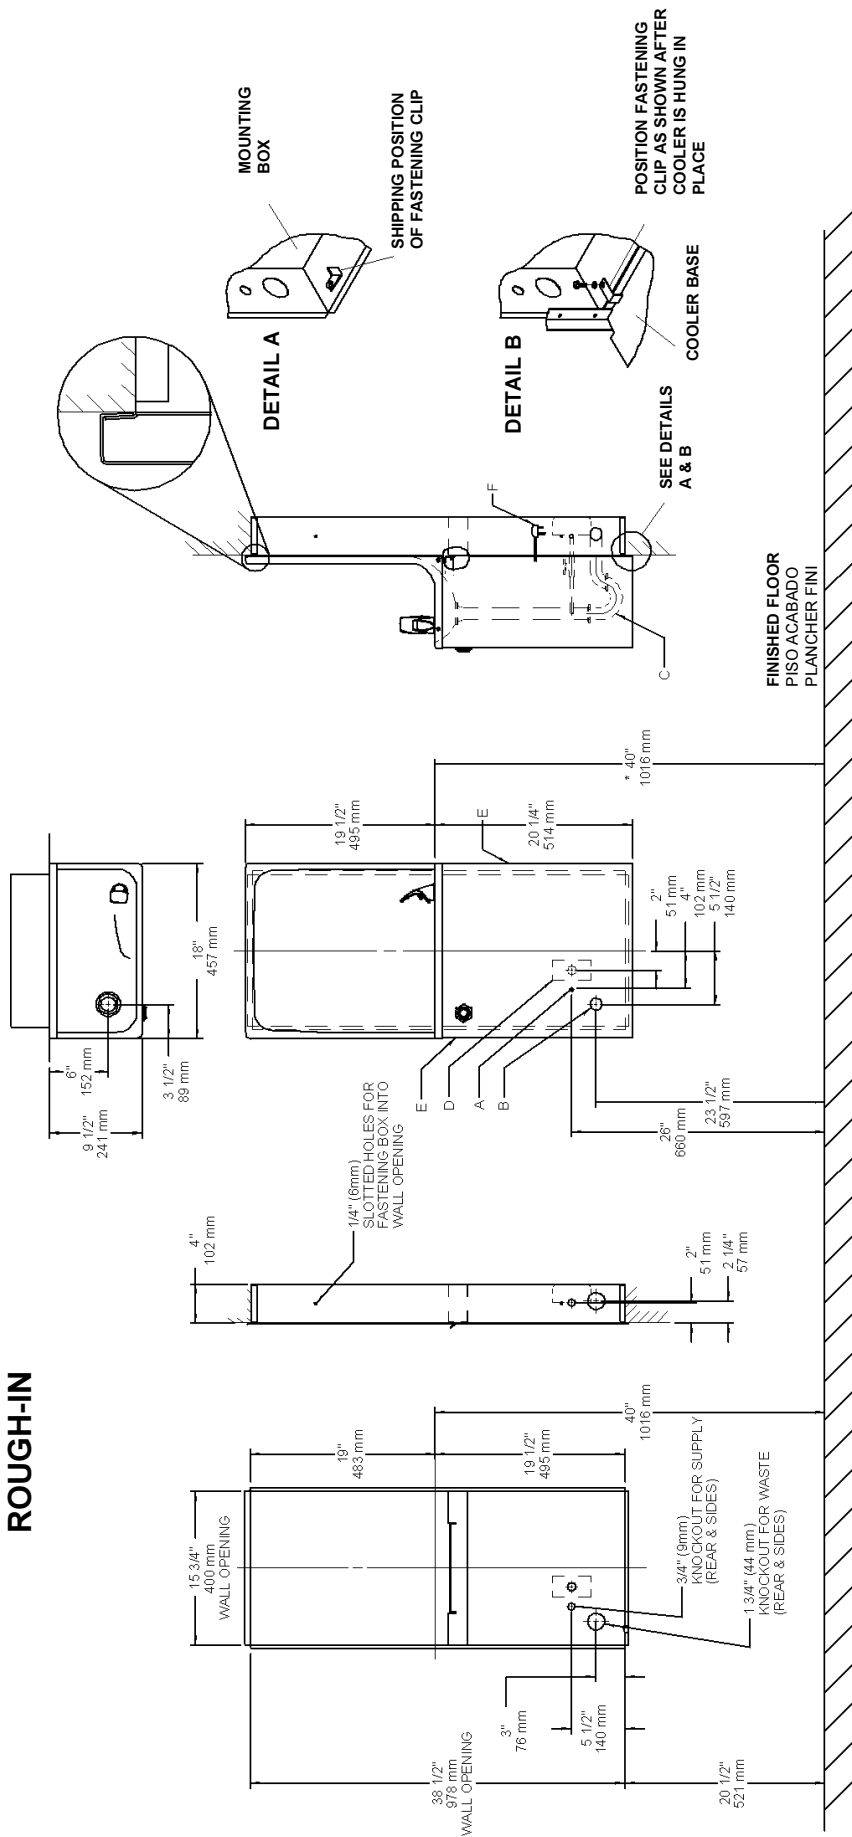

FIG. 2
- 1) Hang the unit from the mounting box by placing tabs from the upper backside of the basin over top of the upper flange on the mounting box, and mount trap, as shown in Figure 2.
- 2) Secure cooler in place by positioning fastening clips as shown in Figure 2 - Detail B.